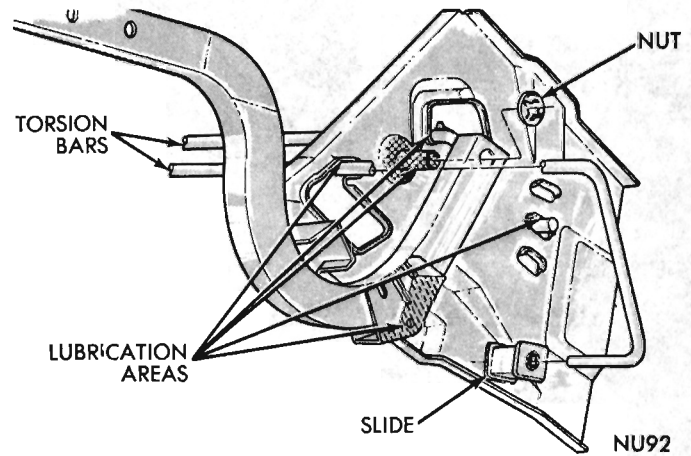

Fig. 32 - Deck Lid Torsion Bar
- (1) Remove deck lid assembly and disengage torsion bar from hinge (Fig. 32) being removed.
- (2) Remove hinge to hinge bracket spring nut and remove hinge.
- (1) Remove torsion bar (Fig. 32) from adjustment slot.
- (2) Push bar out of roller in hinge arm and remove from hinge support.